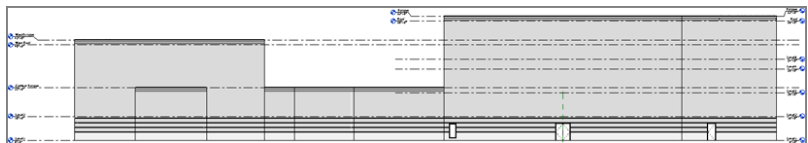

FIGURE 3.31: The final look of the building
8. Go back to the South elevation. Set the top constraints of the selected walls to Corridor Parapet, as shown in Figure 3.31.